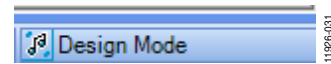
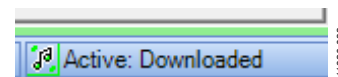

Figure 30. Design Mode and Blue Status Bar
Figure 31. Active Downloaded Mode and Green Status Bar
- The status bar turns from blue to green and the mode displayed changes from **Design Mode** to **Active: Downloaded** in the lower right corner of the window (see Figure 30 and Figure 31). (Until this point, SigmaStudio has been in design mode, as denoted by the blue bar at the bottom of the screen and the words **Design Mode** displayed in the lower right corner of the SigmaStudio window (see Figure 30).)